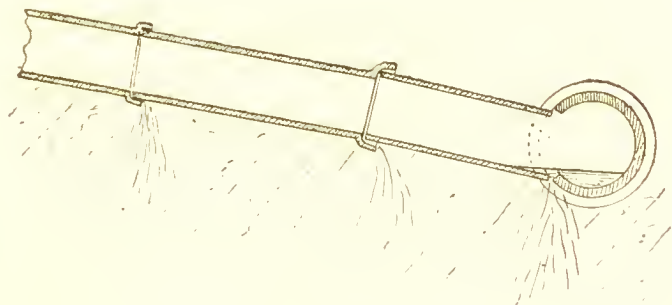

FIG. 3.
7. Butt joints (Fig. 3), no socket to pipes, and the square connection of branches to the main, are also defects often met with.